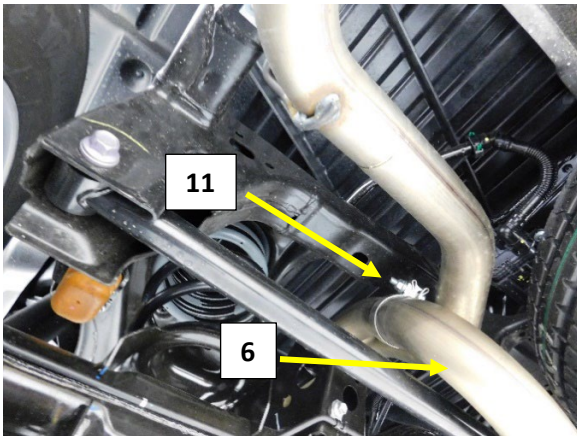

Figure.16
13. Install a 2.5" band clamp (11) on to the expanded end of the right tail pipe (6). Position the clamp (11) with the bolt at the top of the pipe and the nut facing the left frame rail when installed on to the left muffler outlet pipe. **Fig.16**